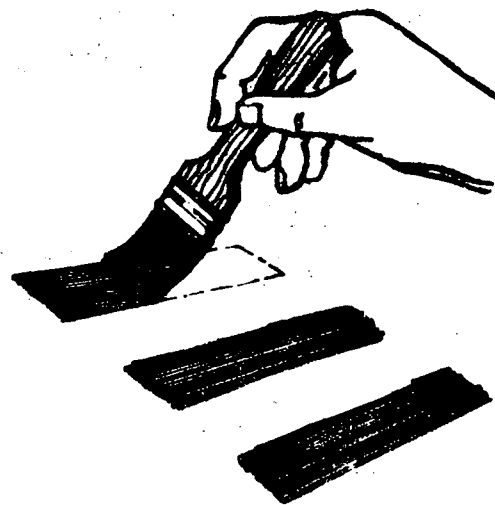

Fig. 2
- c) Make three strokes of a length 3 times the width of the brush leaving an alternate empty space (Fig. 2).